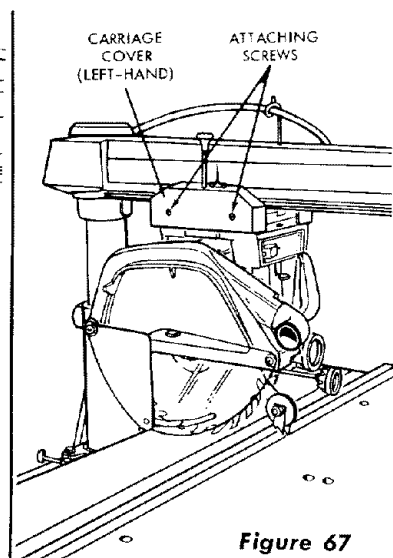

Figure 67
- (1) Remove left-hand carriage cover (figure 67).
- (5) Install the left-hand carriage cover (figure 67).